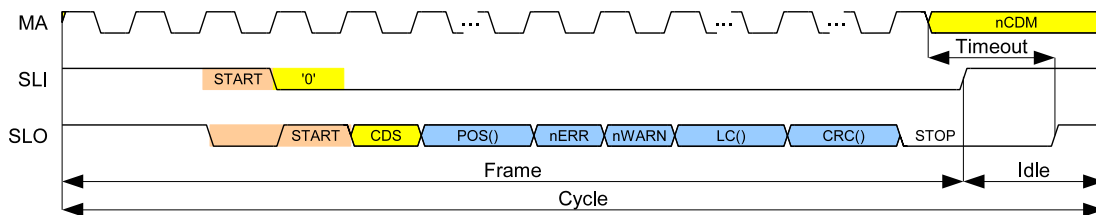

Figure 29: BiSS transmission sequence
The implemented BiSS slave interface can be selected via port configuration pins as described in INTERFACE PORTS on page 20. As BiSS and SSI share its physical ports, the interface of choice has to be enabled additionally via **SSI_EN**. A BiSS transmission is illustrated in Figure 29. Data is sampled on the first rising edge of MA and transferred with MSB first.
The Single Cycle Data (SCD) is transmitted in the format highlighted blue in Figure 29. According to Table 47, the format includes the multiturn position followed by the singleturn position, one low-active error bit, one low-active warning bit, an optional 6-bit sign-of-life counter (LC) and a 6-bit or 16-bit CRC value. The position data is affected by the offsets **MT_OFF** and **ST_OFF**.